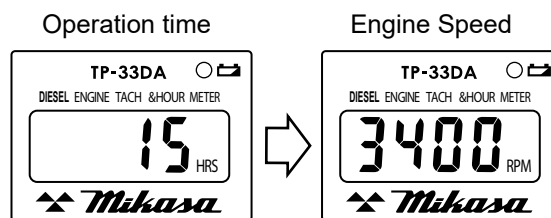

Figure 18. Tachometer Reading
8. During operation, the hour tachometer will display engine speed (Figure 18).